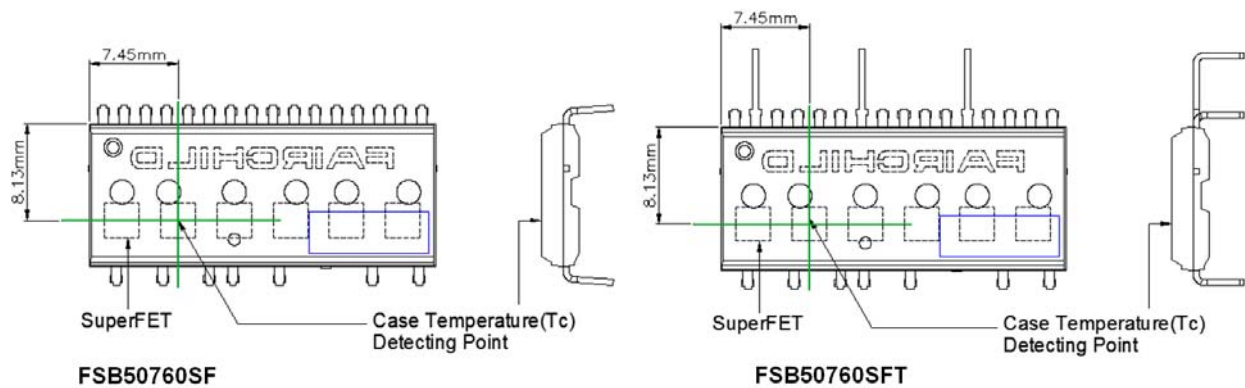

**Figure 3. Built-in Bootstrap Diode Characteristics (Typical)**
- Built-in bootstrap diode includes around  $15\Omega$  resistance characteristic. Please refer to Figure 3.